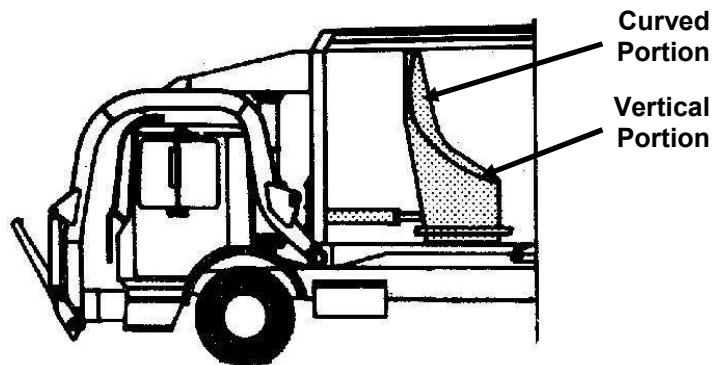

Figure 48. Packer Panel Surfaces
3. The packer panel is shaped with a vertical lower surface and a sloping, curved top portion. See Figure 48. (You can see this by looking into the back of the body with the tailgate up.)